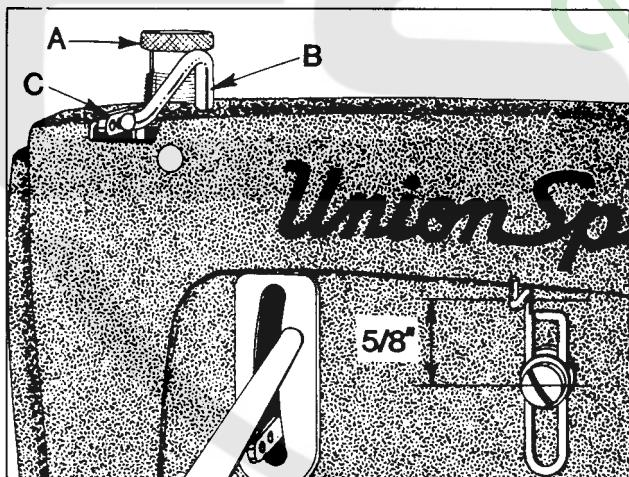

Fig. 14
Regulate presser spring regulating screw (A, Fig. 14) so that it exerts only enough pressure on the presser foot to feed the work uniformly when a slight tension is placed on the fabric. Turning it clockwise increases the pressure counterclockwise acts the reverse.
Set needle thread take-up wire (B, Fig. 14), so that its upper surface is even with the top of the holes in needle bar thread eyelet (C) when needle bar has completed its downward stroke. Lower this setting for a smaller needle thread loop, or raise it for a larger loop. Set needle thread frame eyelet (D) so that the eyelet hole is $5/8$ inch (15.9mm) above the attaching screw.